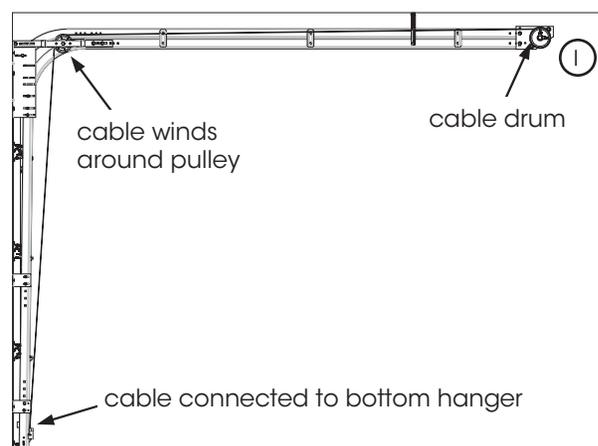
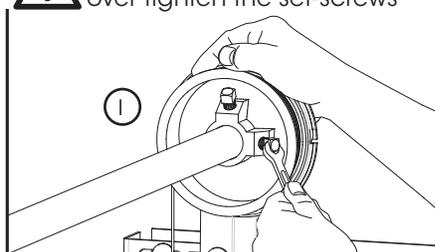

Fig: 5.3.5
Fig: 5.3.6
- l) Thread the lifting cable around the sheave pulley wheel and over to the rear cable drums. Fig 5.3.5.
- m) Attach the lifting cable to the cable drum (I) by slipping the cable into the slot on the outside groove. (the ferrule will prevent the cable from coming out).
- o) Once the cable is taut, slide the cable drum (I) against the side bearing bracket and tighten the screws to the torsion bar. Fig 5.3.6. Refer to section 3.8 for spring tension.